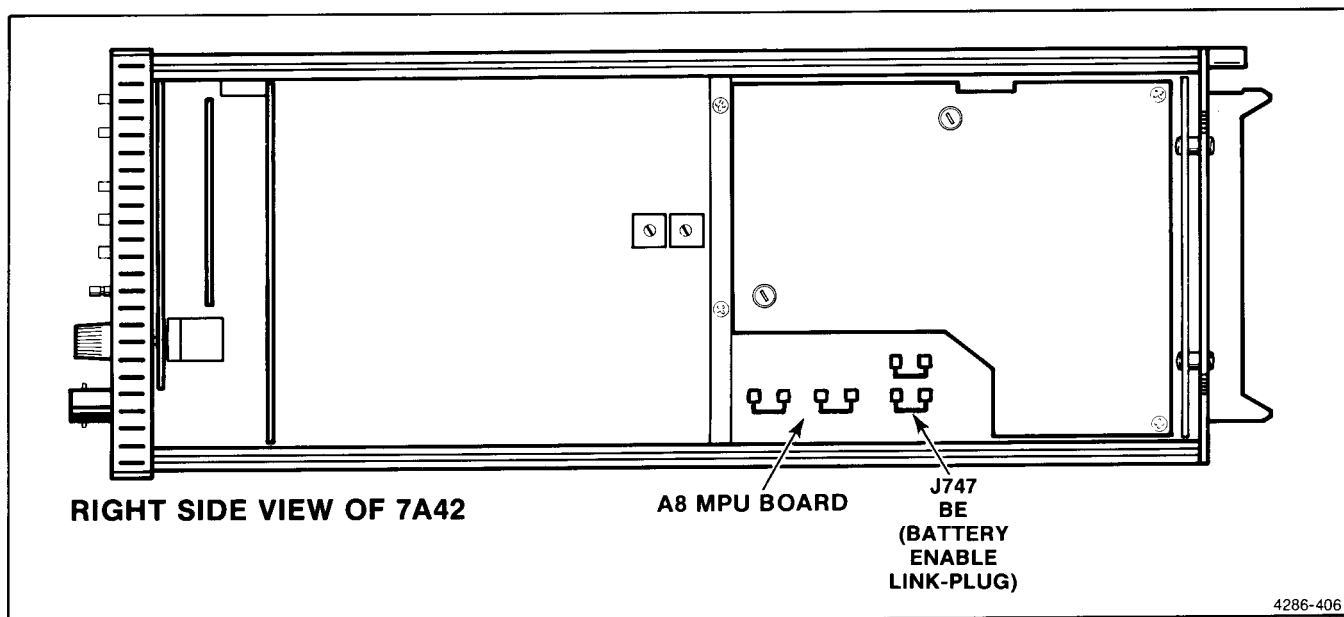

Figure 4-18. Location of the J747 BE (Battery Enable) link plug.
5. Remove the internal J747 BE (Battery Enable) link-plug to disable the battery backup feature. Refer to Figure 4-18. The removal of J747 permits the front-panel settings to be initialized to a known condition each time the oscilloscope mainframe power is turned off, then on. For this reason the "power off, then on" routine is used frequently throughout the following procedures.